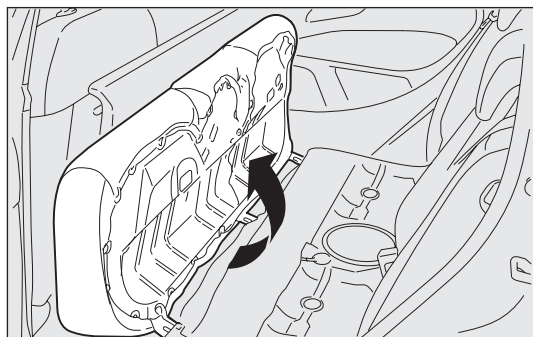

fig. 76
- ☐ tilt the cushions forward as shown by the arrow fig. 76;